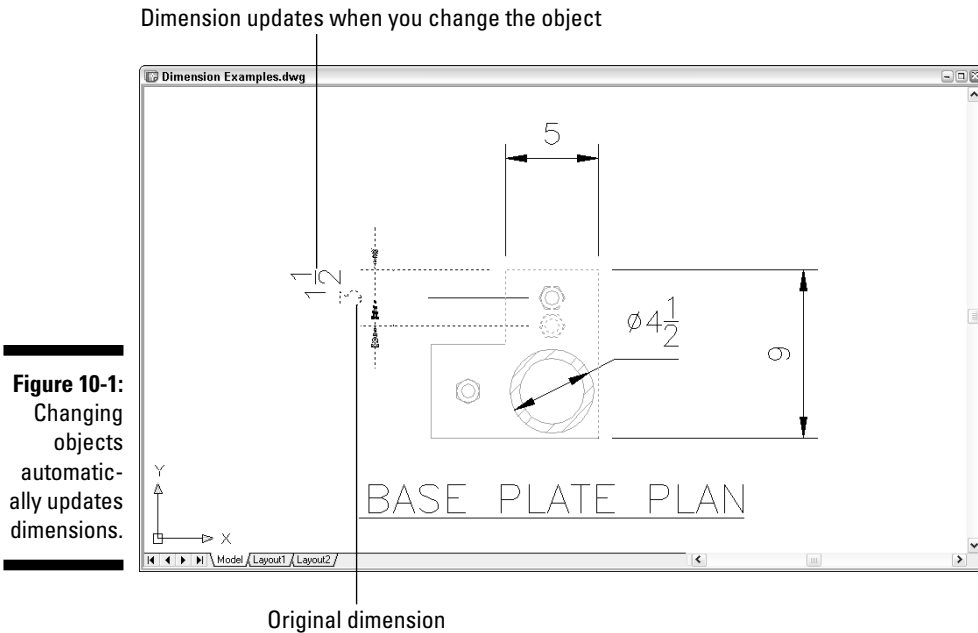

Figure 10-1:
In drafting — either CAD or manual drafting — *dimensions* are special text labels with attached lines that together indicate unambiguously the size of something. Although it's theoretically possible to draw all the pieces of each dimension by using AutoCAD commands such as Line and mText, dimensioning is so common a drafting task that AutoCAD provides special commands for doing the job more efficiently. These dimensioning commands group the parts of each dimension into a convenient, easy-to-edit package. Even better, as you edit an object — by stretching it for example — AutoCAD automatically updates the measurement displayed in the dimension text label to indicate the object's new size, as shown in Figure 10-1.
- ✔ **Dimension lines:** The dimension lines go from the dimension text outward (parallel to the direction of the object being measured), to indicate the extent of the dimensioned length. AutoCAD's default dimension style settings center the dimension text vertically and horizontally on the dimension lines (see Figure 10-2), but you can change those settings to cause the text to appear in a different location — riding above an unbroken dimension line as shown in Figure 10-1, for example. See the section “Adjusting style settings,” later in this chapter, for instructions.